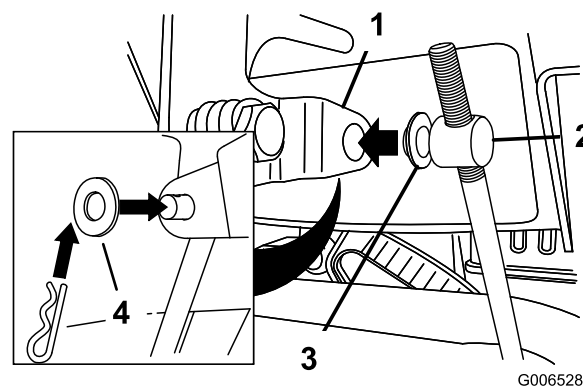

Figure 11
3. Remove the hairpin cotter and the outer washer from the trunnion on the upper end of the speed control rod (Figure 11).
Note: To make installation easier, leave the flat washer on the trunnion (Figure 11).
- Lift up on the speed control rod and insert the trunnion into the hole in the speed selector lever (Figure 11).
- B. Disconnect the trunnion from the speed selector lever (Figure 11).
- C. Turn the trunnion upward (counterclockwise) on the speed control rod (Figure 11).
- D. Connect the trunnion to the speed selector lever (Figure 11).
- C. Turn the trunnion downward (clockwise) on the speed control rod (Figure 11).